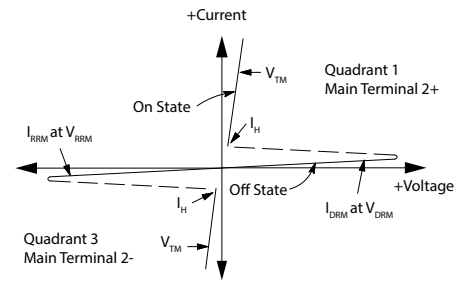

Figure 1. Typical RMS Current Derating
2. Ratings apply for $t_w = 1$ ms. See Figure 1 for ITM capability for various duration of an exponentially decaying current waveform, t_w is defined as 5 time constants of an exponentially decaying current pulse.
- Ratings apply for $t_w = 1 \text{ ms}$. See Figure 1 for I_{TM} capability for various durations of an exponentially decaying current waveform.